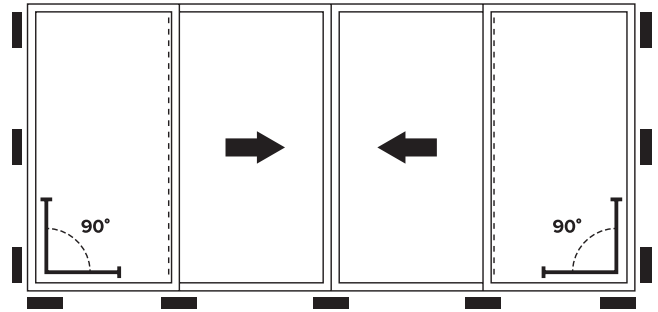

Figure 1
6. Verify the patio door frame is level and square. Use thin shims at the bottom of the door to ensure sill is supported at load points and level across the entire width as shown in **figure 1**. Place additional shims at the side of the jambs and at the locking locations to ensure the jamb is straight. Install screw(s) with proper blocking through keeper and into rough opening.